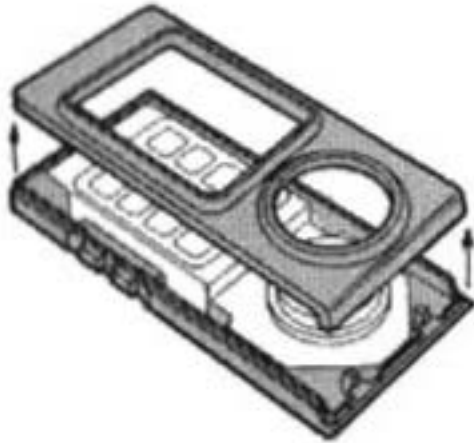

Figure 4-3
1) While holding the top and bottom housings together, turn the Hand Controller right side up. Set it back on a flat surface. (See Figure 4-3)